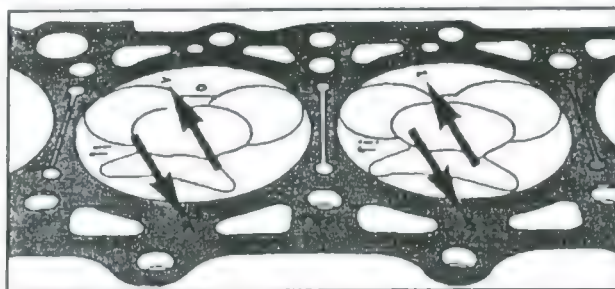

Fig. 1.29 - Identification (marking) of piston crown and cylinder block face with the group code letters.
- Pistons and cylinder bores are graded in three diameter classes within specified tolerance groups and marked with the letters A, X and B or O, 1 and 2 (616 engine). The class number is stamped into the upper face of the cylinder block, next to the particular cylinder bore, as shown in Fig. 1.29.